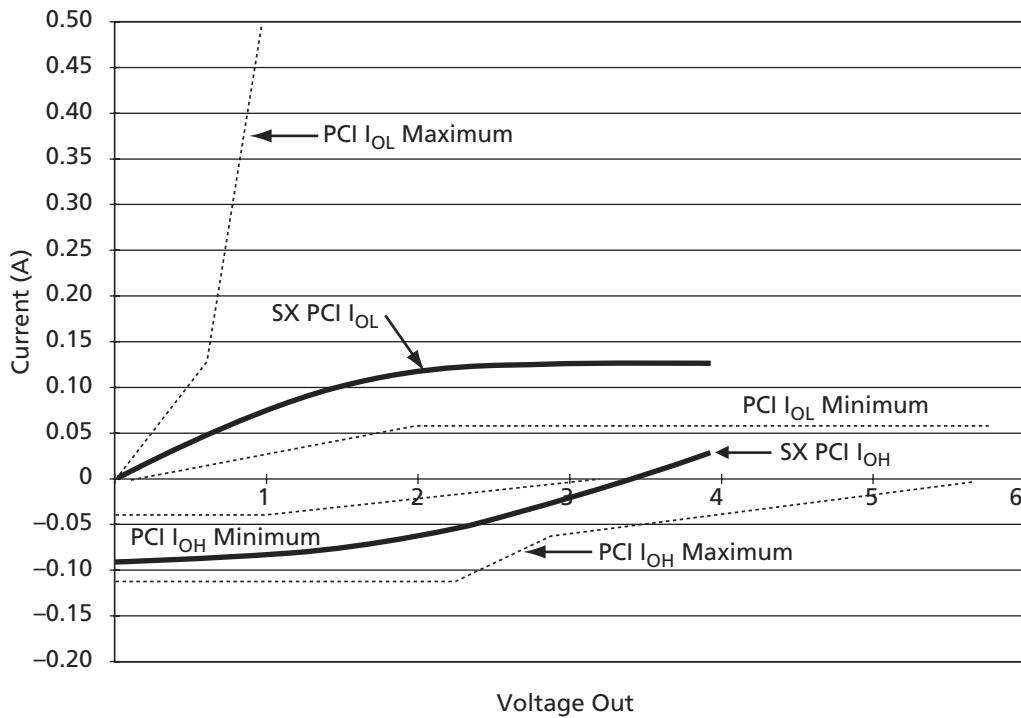

Figure 1-10 • 3.3 V PCI Curve for A54SX16P Device
1. Refer to the  $V/I$  curves in Figure 1-10 on page 1-14. Switching current characteristics for REQ# and GNT# are permitted to be one half of that specified here; i.e., half size output drivers may be used on these signals. This specification does not apply to CLK and RST# which are system outputs. "Switching Current High" specification are not relevant to SERR#, INTA#, INTB#, INTC#, and INTD# which are open drain outputs.
2. Maximum current requirements must be met as drivers pull beyond the last step voltage. Equations defining these maximums (C and D) are provided with the respective diagrams in Figure 1-10 on page 1-14. The equation defined maxima should be met by design. In order to facilitate component testing, a maximum current test point is defined for each side of the output driver.
Figure 1-10 shows the 3.3 V PCI V/I curve and the minimum and maximum PCI drive characteristics of the A54SX16P device.